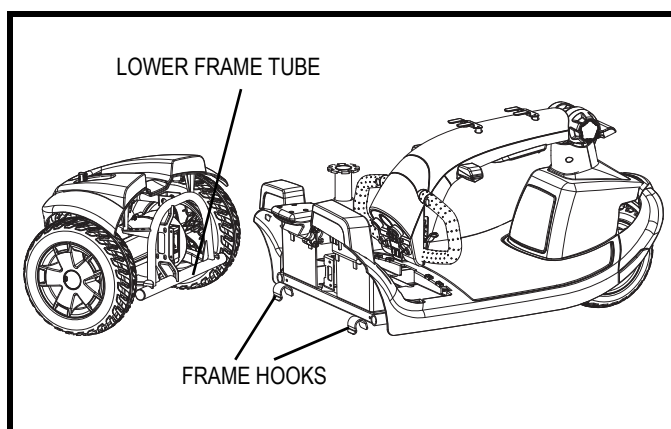

Figure 24. Frame Separation
4. Lift the front section up until the frame hooks of the front section separate from the rear section. See **figure 24**.
5. Slowly separate the two sections. See **figure 24**.
1. Position the front and rear sections of your scooter as shown in **figure 24**.
2. Use the frame release lever to lift the front section as you align the frame hooks of the front section with the lower frame tube of the rear section. See **figure 24**.